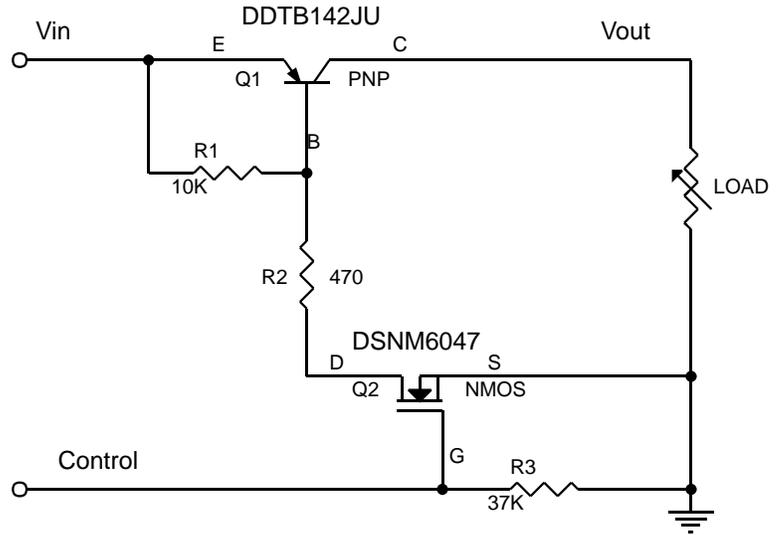

Fig. 19 Circuit Diagram
- PNP Transistor (DDTB142JU) and N-MOSFET (DSNM6047) with gate pull-down resistor integrated as one in LMN200B01 can be used as a discrete entity for general purpose applications or as an integrated circuit to function as a Load Switch. When it is used as the latter as shown in Fig 19, various input voltage sources can be used as long as it does not exceed the maximum ratings of the device. These devices are designed to deliver continuous output load current up to a maximum of 200 mA. The MOSFET Switch draws no current, hence loading of control circuit is prevented. Care must be taken for higher levels of dissipation while designing for higher load conditions. These devices provide high power and also consume less space. The product mainly helps in optimizing power usage, thereby conserving battery life in a controlled load system like portable battery powered applications. (Please see Fig. 20 for one example of a typical application circuit used in conjunction with voltage regulator as a part of a power management system)